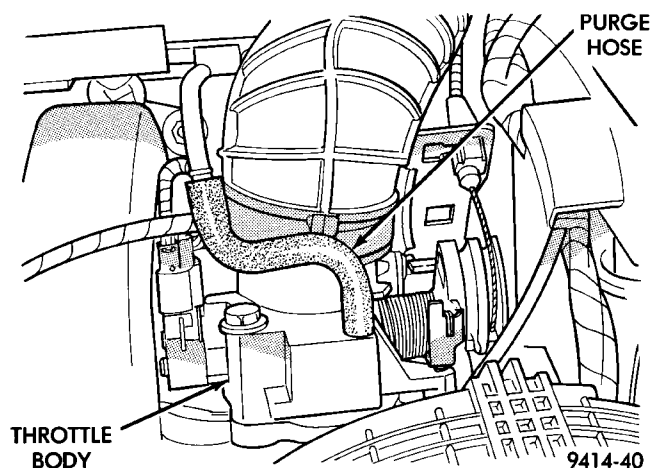

Fig. 83 Purge Hose
- (3) Disconnect purge hose from the nipple on the throttle body (Fig. 83).